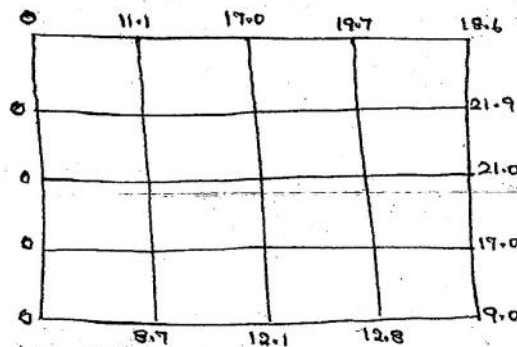

Figure- 1.
9. Find the Liebmann's method the values at the interior lattice points of a square region of the harmonic function $u(x, y)$ whose boundary values are shown below (figure- 1): (15)